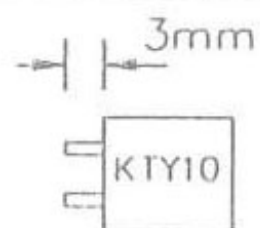

FIG.1.2
- Cut the connections of the KTY10 sensor at 3mm. see fig. 1.2